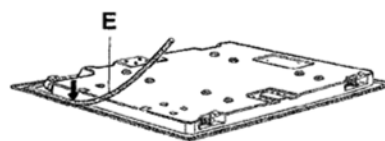

FIG. 8
- Overturn the hob, take the seal strips off from their support, having care that the transparent protection remains attached to the seal. Correctly place the seal "E" (fig. 8) under the hob edge, so that the external side of the seal fits together with the external perimetric edge of the hob. The ends of the strip must fit together without overlapping.